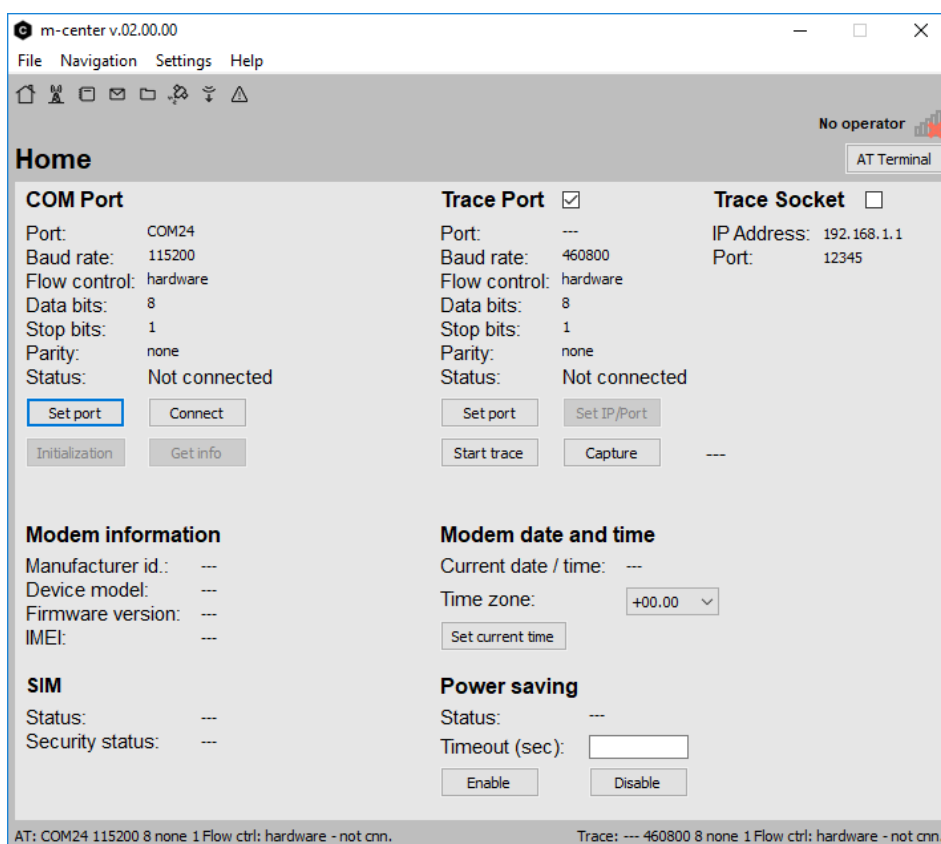

Figure 10: m-center Home page
2. Run the m-center tool: after the m-center start-up, the **Home** page appears as shown in Figure 10.